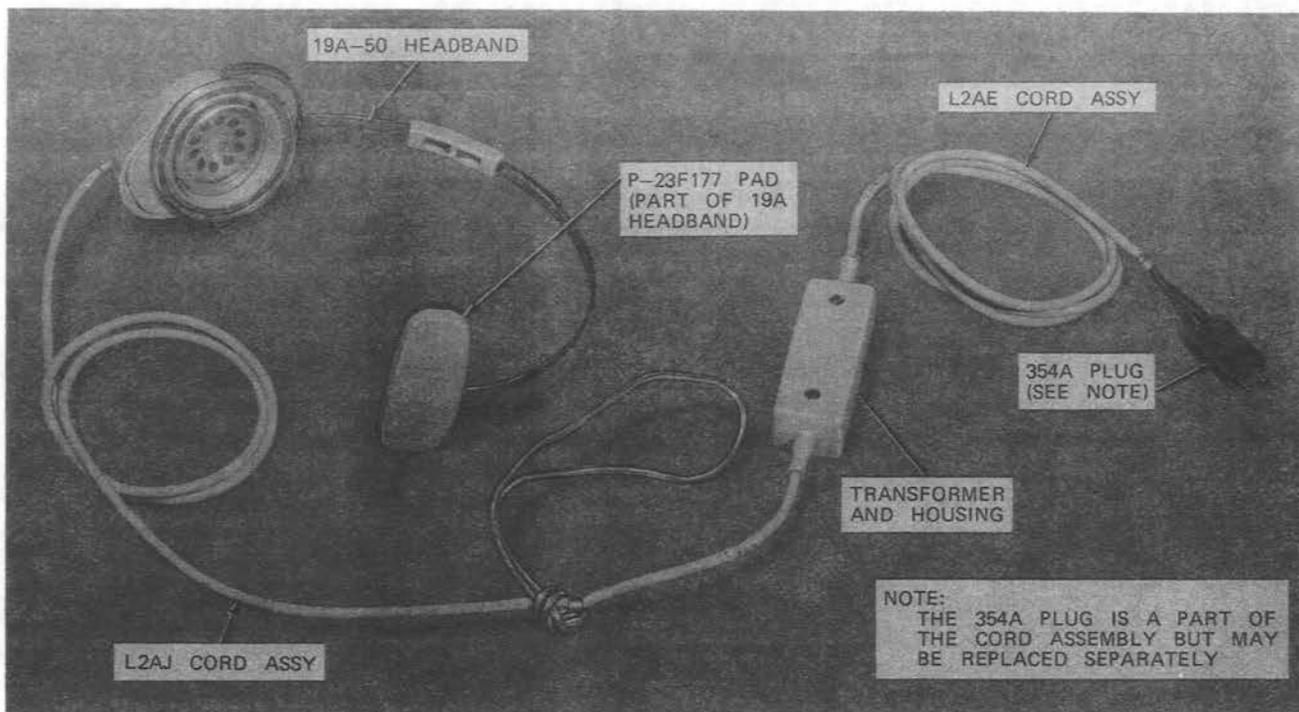

Fig. 2—1023A-Type Headset
2.03 The 1023A-type headset (Fig. 2) is designed for monitoring 2400- and 2600-Hz tone signals used to trigger automatic severance of toll trunk connections at the end of a long distance call. It is intended for 600-ohm lines and presents a 20,000-ohm impedance to the line to minimize loading.